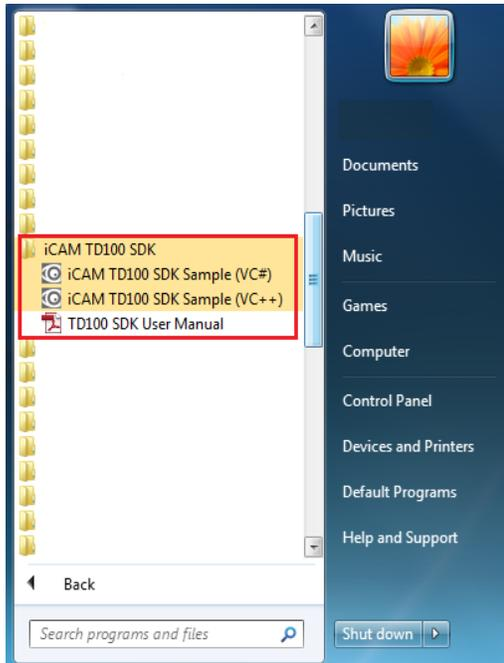

Fig. 4
**\*Additional Note:** After the installation has completed successfully, the program and required driver should now be properly installed when using Windows Windows 7 (64-bit). Once the driver and software have been properly installed on your Windows 7, you are now ready to plug-in your powered USB cable connection from the iCAM TD100 to the computer. A message balloon indicating that new hardware has been properly installed may appear when the USB cable is inserted. Access the installed software by going to your programs screen from the start button on the PC (Fig. 4). If using Windows XP or Windows 7 x86 (32-Bit), follow the steps in section 4.1 for device installation (for Windows XP and Windows 7 32-bit OS only).